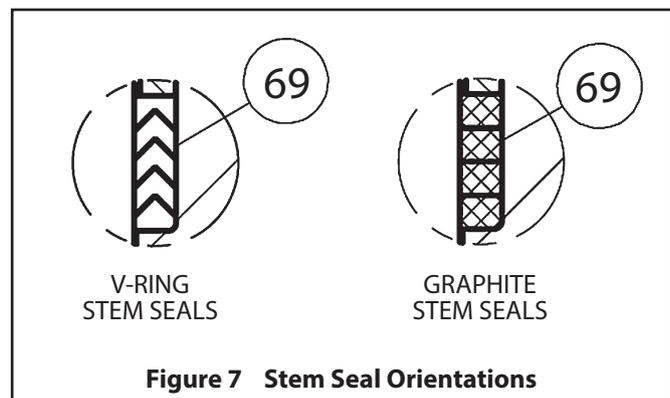

Figure 7 Stem Seal Orientations
7. Insert the stem (5) through the insert end of the body (1), being careful not to scratch the stem sealing surface; and press it gently up into the stem bore until resistance is felt from the thrust bearing. Holding the stem in place from the bottom and insert the stem seals (69) (see **Figure 7** for proper v-ring orientation), over the stem (5).